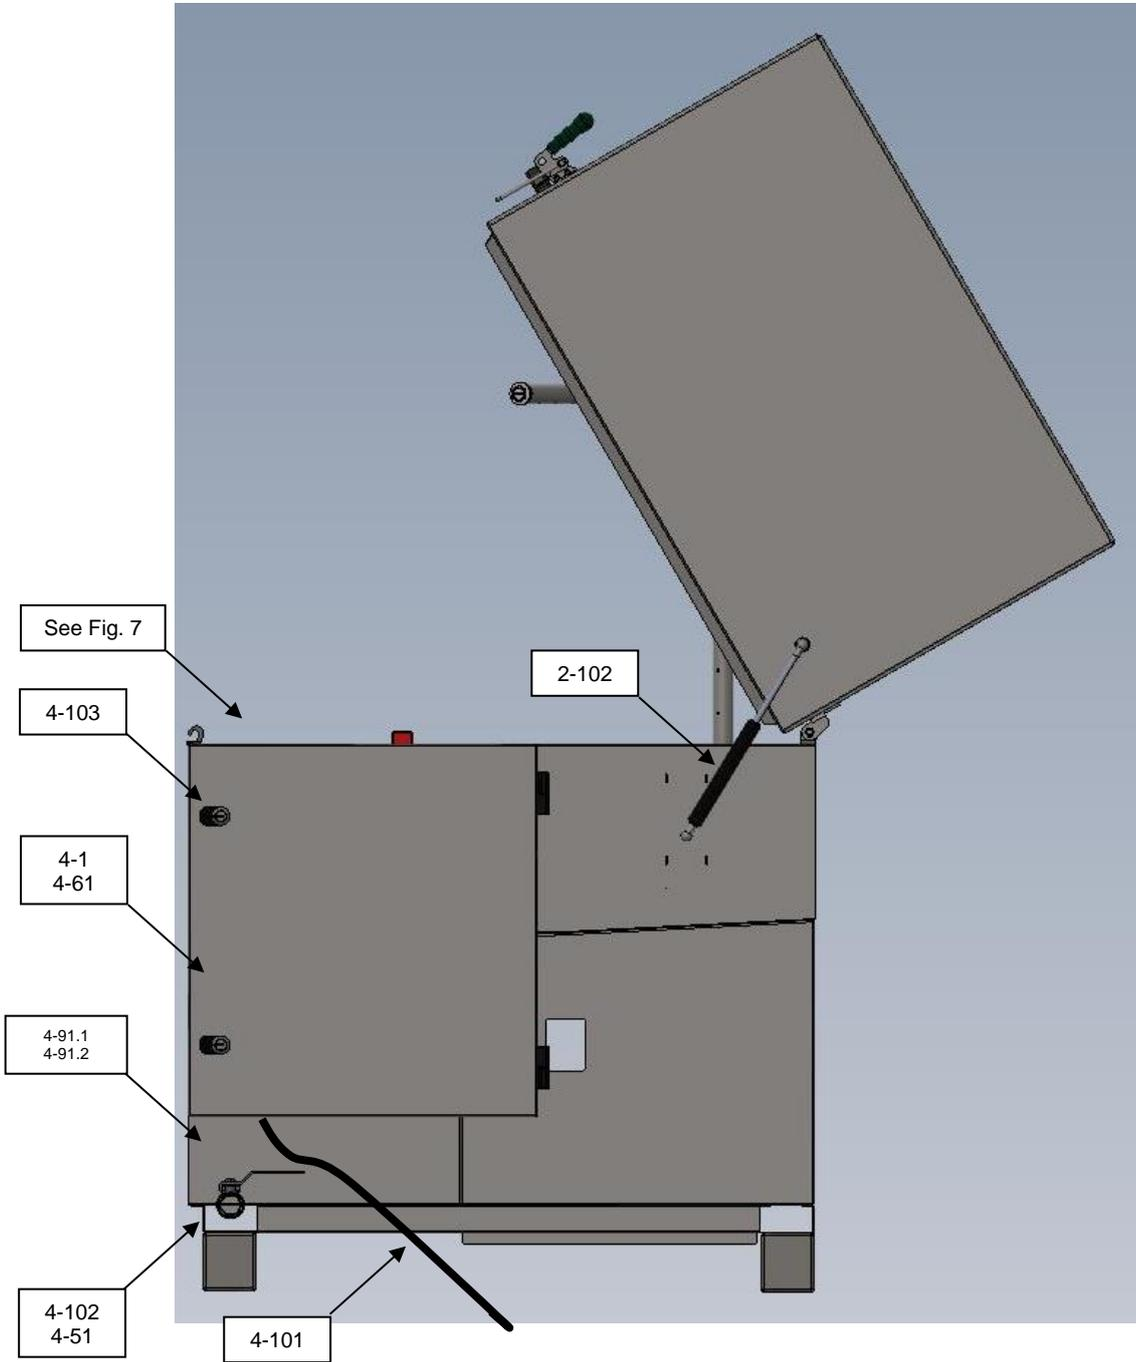

Fig. 4 Right view of the machine
A drain valve (pos. 4-51) is used for draining of washing liquid out of the machine, see in Fig. 4. A safety plug (pos. 4-102) is screwed into the drain valve to prevent accidental leaks of wash liquid due to insufficient closing of the valve.
- Wash liquid heating is ensured by an electric submersible heater, see in Fig. 4 (position T1).
- Cable distribution systems are placed in cable troughs and electrical boxes to minimise the risk of their mechanical damage. The mains supply includes a power cable terminated with a five-pole mains plug, see in Fig. 4 (pos. 4-101), suitable for use in industrial plants. The mains parameters must comply with the requirements of Section 3.
- With regard to the working environment of the machine, an additional earthing and bonding protection against electric shock is provided. There is a screw for connection to an earth cable on the machine housing near the electric switchboard, see in Fig. 4 (pos. 4-91.1 and 4-91.2).
Caution: *The machine shall always be operated with the earthing cable connected to the main earthing terminal, see in Fig. 4 (pos. 4-91.1 and 4-91.2).*